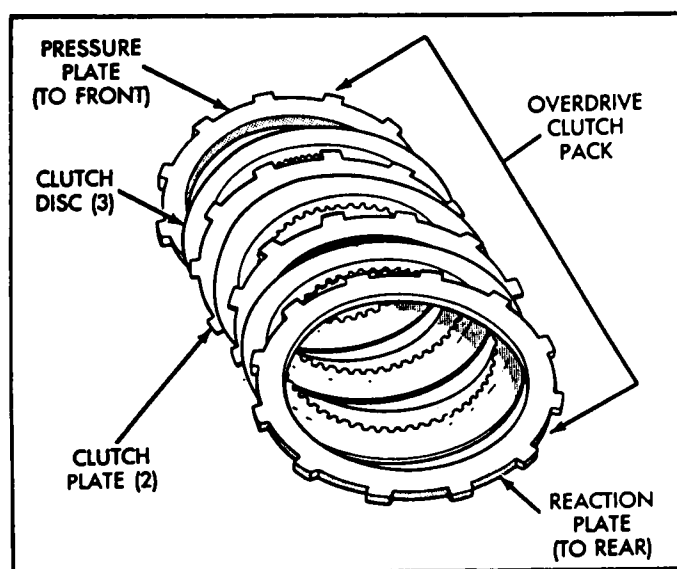

Figure 3
3. Remove the overdrive clutch pack and note position of clutch pack components as shown in Figure 3.